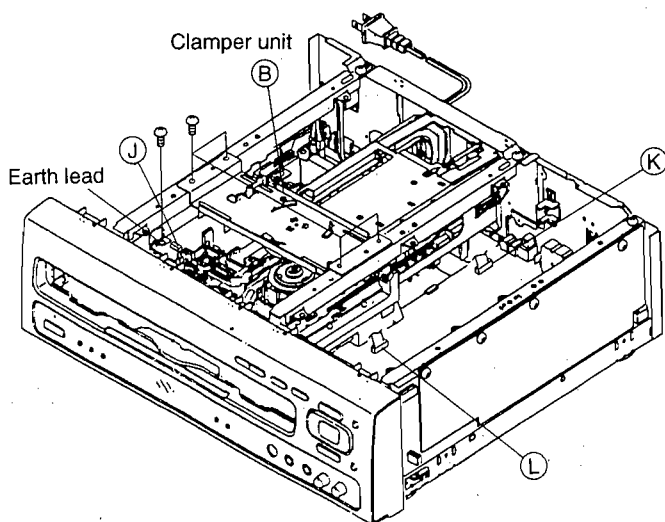

Fig. 1-2 Structure of set
1. Remove the clamber unit (B) (Fig. 1-2) by loosening its four screws.
1. Remove the clamber unit ⑧ (Fig. 1-2) by loosening its four screws.
1. Remove the clamber unit ⑧ (Fig. 1-2) by loosening its four screws, and remove the tray unit.
2. Remove the three connectors ① to ③ (Fig. 1-2). Remove the earth lead by loosening its screw.